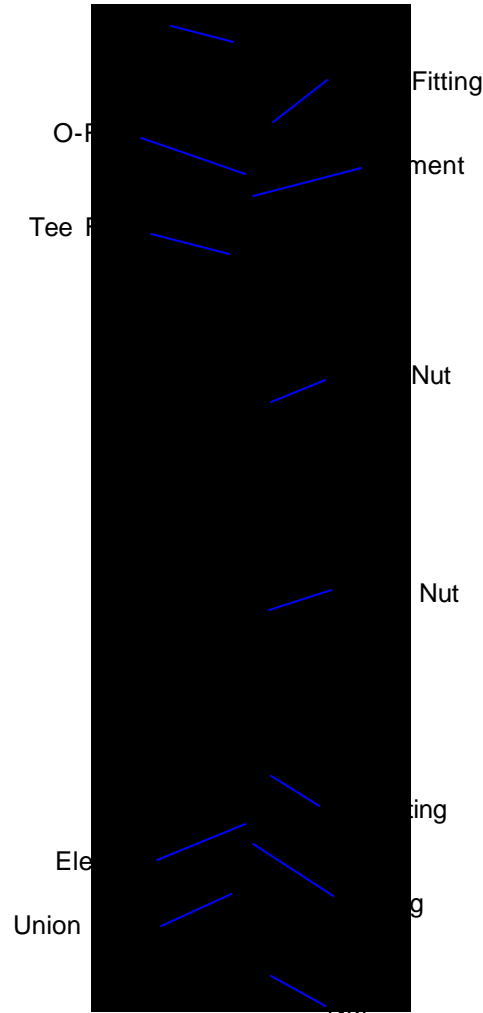

Figure 3
1. Hold tee fitting with 5/8 wrench and loosen union connector fitting with 7/16 wrench (refer to Figure 3).